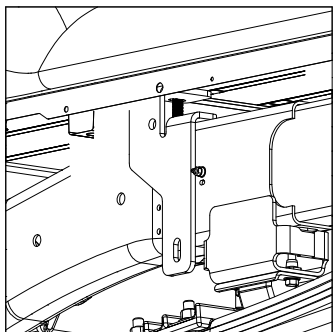

Figure C4: View looking at outside of driver side frame.
- 5. Install front brackets:** Locate the driver side front bracket, a U-bolt, two 1/2" x 2" carriage bolts, 1/2" flat washers, 1/2" lock washers and 1/2" finish nuts. Position the bracket behind the crossmember under the installation location of the forward mounting rail. Maneuver the bracket so that the 1/2" carriage bolt passes through the slot at the top of the bracket as shown in figure C4. While holding the bracket flat against the outside of the frame pass the U-bolt over the frame and through the bracket and secure with 1/2" hardware, see figure C5. Repeat for passenger side. Hand tighten each nut.